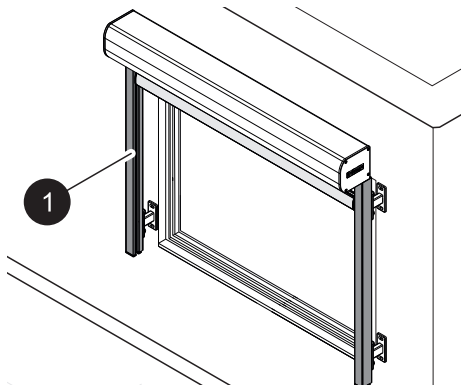

Fig. 17: Cleaning the guide rails
4. Brush out or vacuum the guide rails (fig. 17/1).